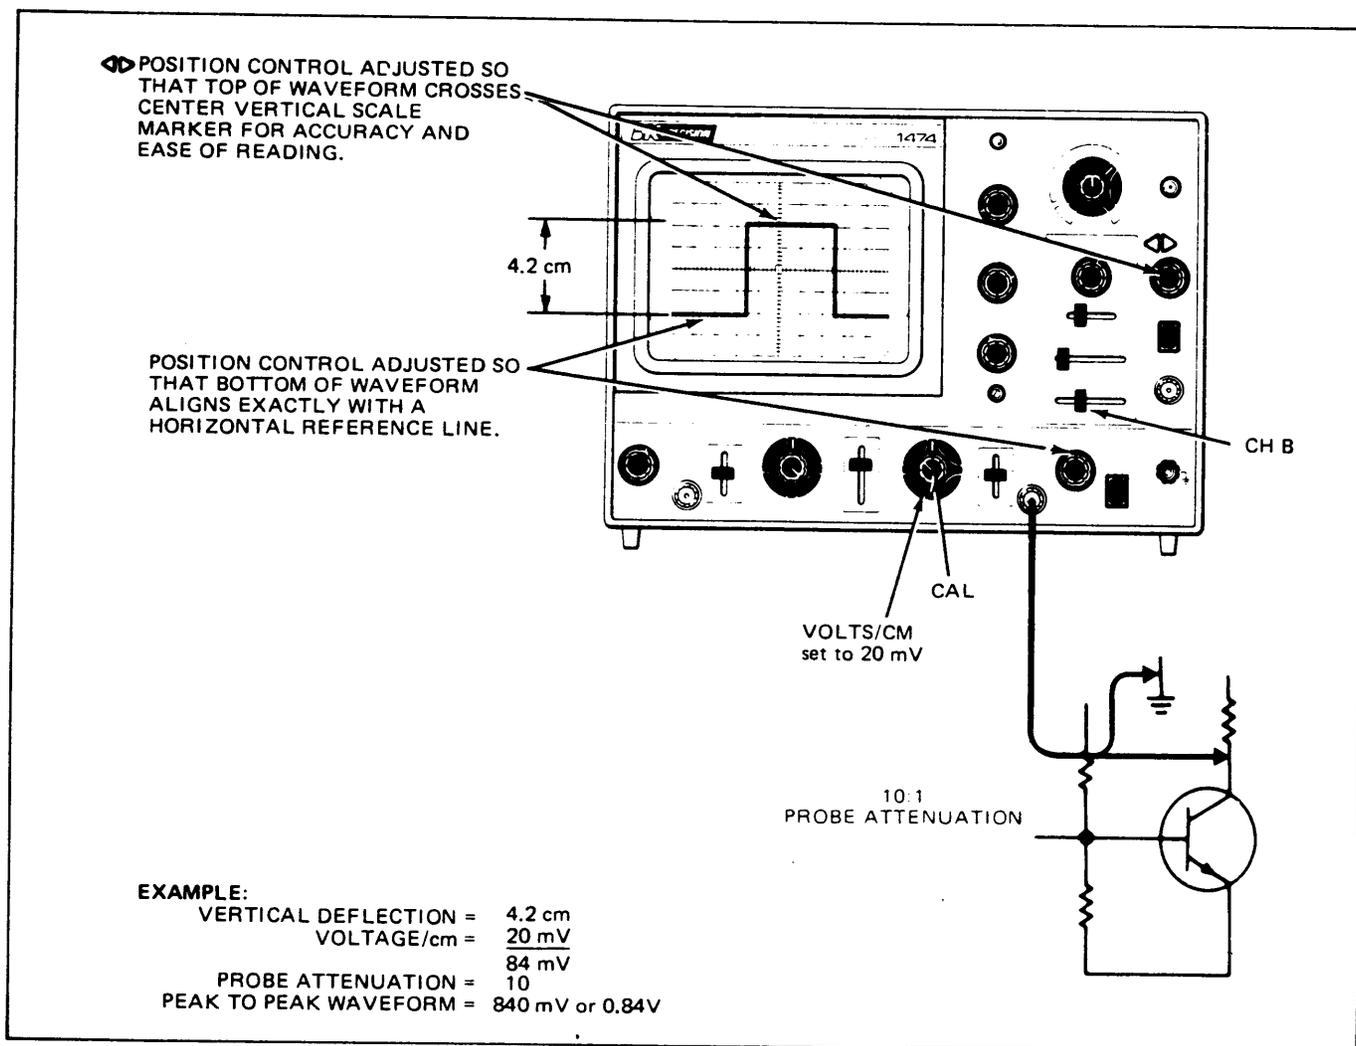

Fig. 4. Typical voltage measurement.
CALIBRATED VOLTAGE MEASUREMENT (See Fig. 4)
5. Calculate the voltage reading as follows: Multiply the vertical deflection (in cm) by the VOLTS/CM control (20) setting (see example in Fig. 4). Don't forget that the voltage reading displayed on the oscilloscope is only 1/10th the actual voltage being measured when the probe is set for 10:1 attenuation. The actual voltage is displayed when the probe is set for DIRECT measurement.
6. Calibration accuracy of this oscilloscope may be occasionally checked by observing the 0.5 volt peak-to-peak square wave signal available at the CAL 1kHz \square 0.5 V p-p jack (7). This calibrated source should read exactly 0.5 volt peak-to-peak. If a need for recalibration is indicated, see the MAINTENANCE AND CALIBRATION section of the manual for complete procedures.